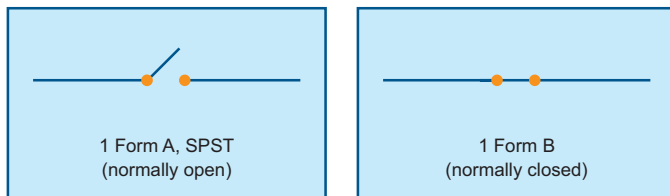
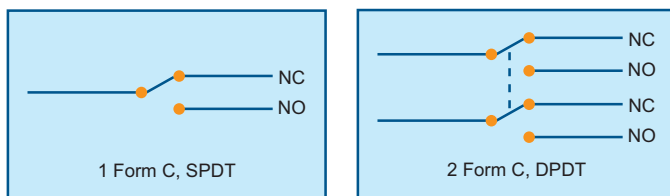

Figure 1 (Form A, Form B)
Figure 2 (Form C, 2 Form C)
Switches are generally separated into 3 forms, single-pole single-throw (SPST), single-pole double-throw (SPDT), and double-pole double-throw (DPDT). The pole is the source wire, while the throw refers to the switch position. A direct application of SPST switches is to close or open a circuitry (Figure 1). A SPDT switch has one source wire and two switch positions. The contact of the SPDT switch stays on the normally closed (NC) position. When the SPDT switch is excited, then the contact changes the position to the normally open (NO) position (Figure 2). The DPDT switch consists of 2 SPDT switches operating at the same time.
The other classification of switches is done by forms, Form A, Form B, Form C and Form D. Form A refers to a normally open SPST switch, while Form B refers to a normally closed SPST switch. In Figure 1, the normally open SPST switch is called a 1 Form A switch.
Form C is a single-pole double-throw (SPDT) switch with "break-before-make" functionality, while Form D is also a SPDT switch, but with "make-before-break" functionality. In Figure 2, the switch on the left is a "1 Form C", which chooses two signals to connect with the source wire; the switch on the right is a "2 Form C" switch, which is DPDT as previously described.